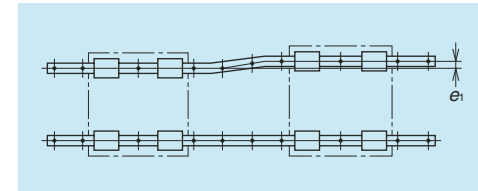

Fig. 10.5
- Figs. 10.5 and 10.6 are representing the mounting errors of  $e_1$  and  $e_2$ . Their permissible values are shown in the description of "5. Installation" of the each series.